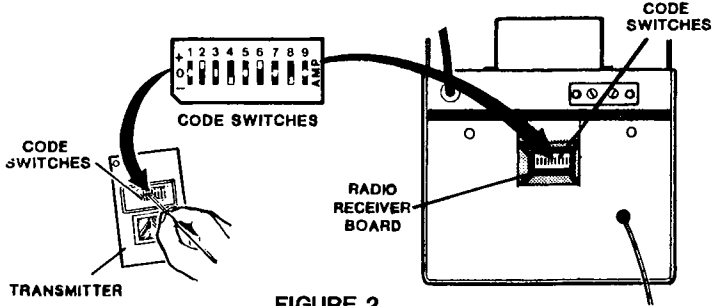

FIGURE 2
3. To change the code (see Fig. 2), simply change the position of one or more of the code switches on the Receiver and Transmitter(s) circuit board. PLEASE NOTE: The code switches (three position) settings of the Receiver and Transmitter(s) must match each other. EXAMPLE: If code switch No. 1 is "+" in the Receiver, code switch No. 1 must be "+" in the Transmitter(s), and so on.